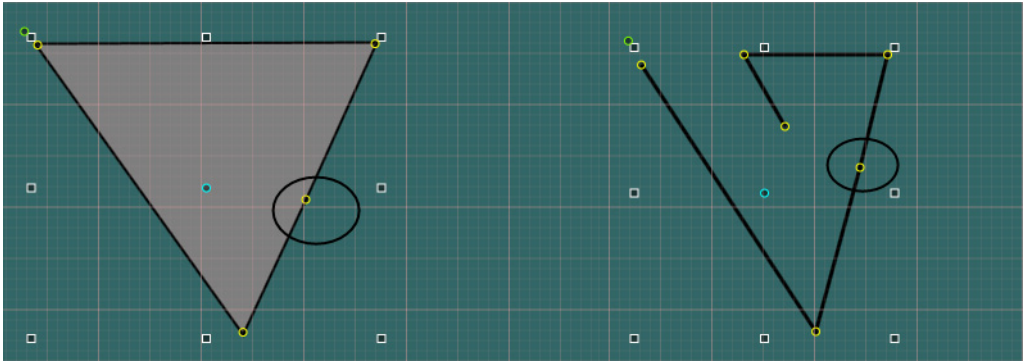

Figure 14. Adding a new point to a polygon/polyline
3. Select **Add Point** from the context menu. A yellow colored circle appears on the line where a new point is added (see Figure 14).
3. Select **Delete Point** from the context menu (see Figure 14).